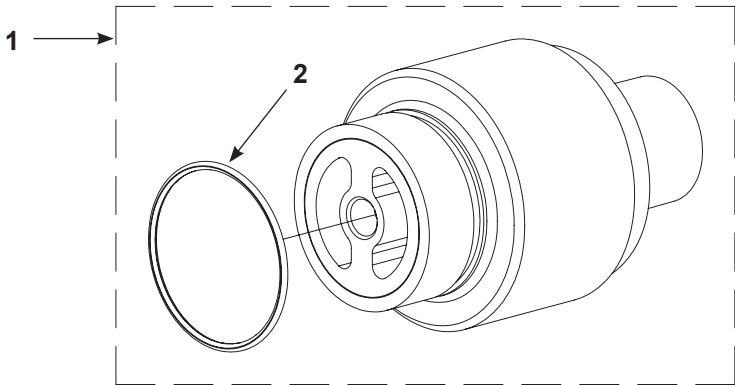

Figure 22 XD Electrode Support Assembly
B. Refer to Figure 22 and parts list for repair parts for the XD Electrode Support Assembly kit.